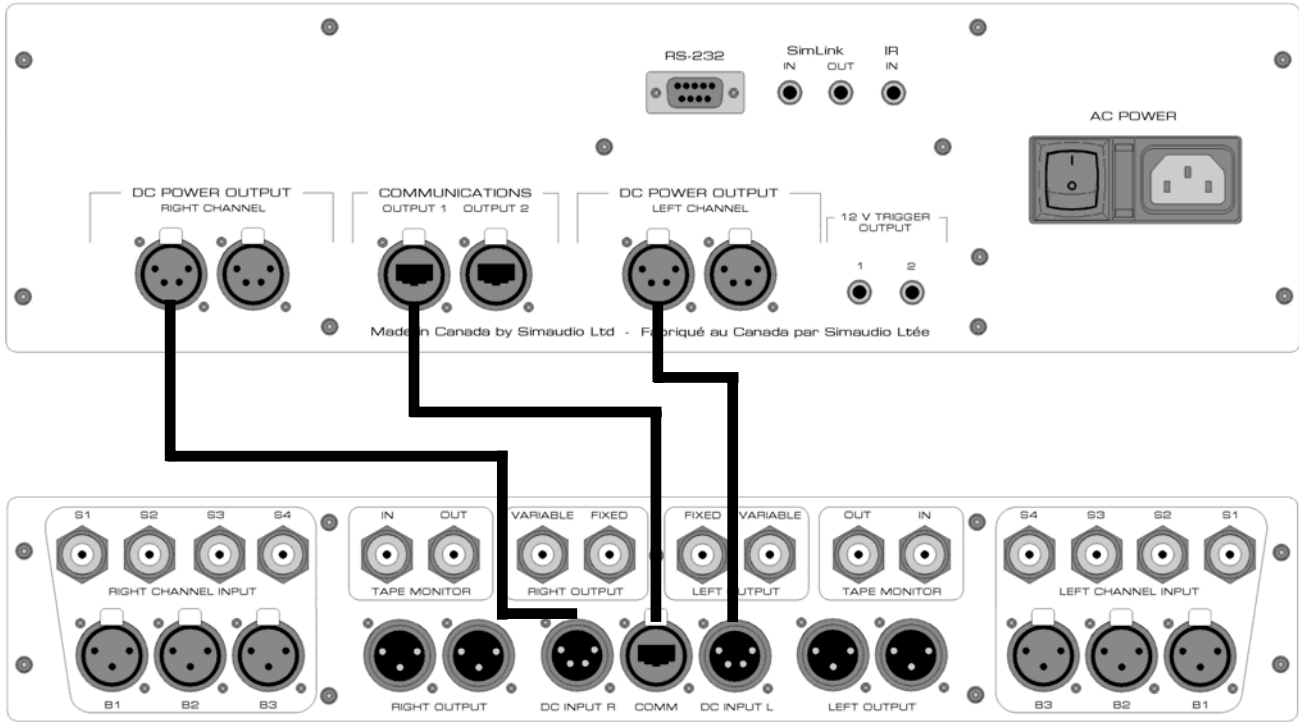

Figure 1: Connecting the MOON P-8 Preamplicifier (bottom) and P-8 Controller (top)
1. There are three (3) connections that must be made between the **MOON P-8** Preamplicifier's chassis and its separate controller chassis as shown above in Figure 1; First, using one of the two supplied 4-pin XLR cables, connect the end with the male pin socket to the plug labeled "DC Power Output Right Channel" located on the rear panel of the controller. Connect the other end of the cable, with the female socket, to the plug labeled "DC Input R" located on the rear panel of the preamplicifier. Next, using the other 4-pin XLR cable, repeat the same process between "DC Power Output Left Channel" and the "DC Input L" socket. Finally, using the supplied 8-pin Ethercon cable (both ends are identically terminated), connect one end to the plug labeled "Communications Output 1" located on the rear panel of the controller. Connect the other end of the cable to the plug labeled "Comm" located on the rear panel of the preamplicifier. You will notice that there are two sets of each output connector on the controller, however only one of each is required to operate this preamplicifier; the other connectors are for possible future use with other components. Do not attempt to modify the lengths these cables – they are specifically designed for optimal performance.